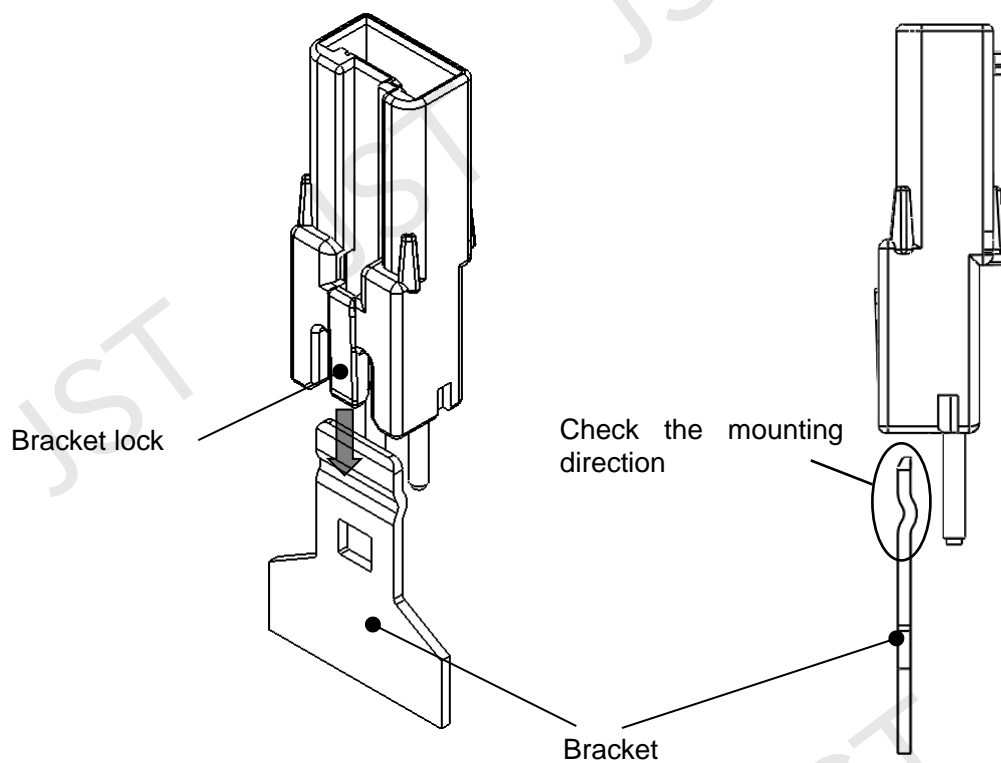

Fig. 32
- ① Before the operation, check no foreign substances on the bracket.
- ② Check the mounting direction and insert the bracket. (Fig.32)